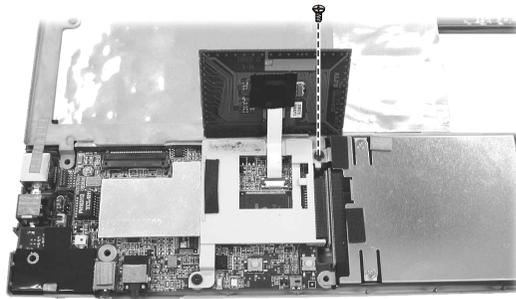

Figure 2-14 Remove one screw
3. Lift up the touch-pad board, then remove the screw at the upper right corner of the touchpad holder.(See Figure 2-14)